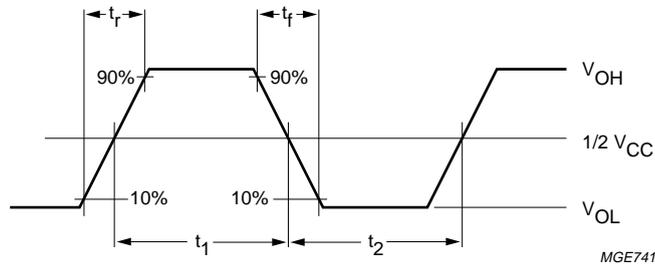

Fig.13 Definition of transition times.
- The transition time and duty cycle definitions are shown in Fig.13;  $\delta = \frac{t_1}{t_1 + t_2}$ .